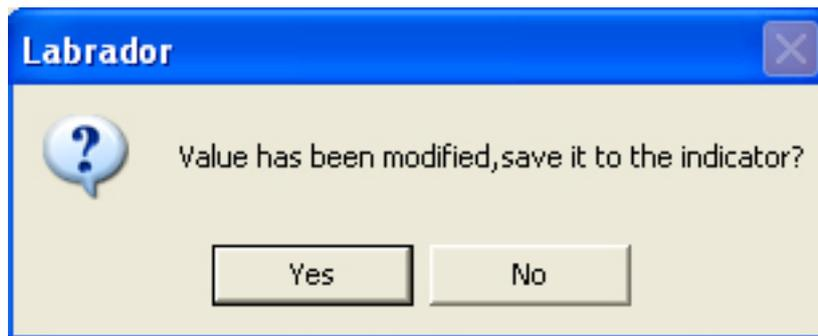

Figure 3-6 “Labrador” Dialog
- Calibration is finished, exit from “805TS Setup Interface”. (see figure 3-6)